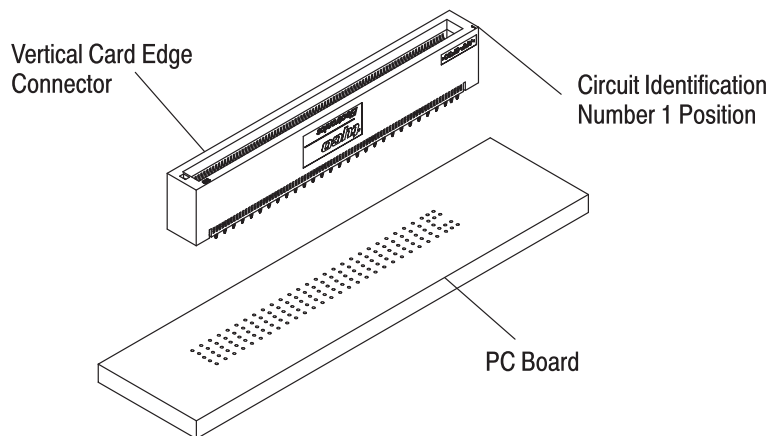

Figure 5
A. Initial Positioning (Figure 5)